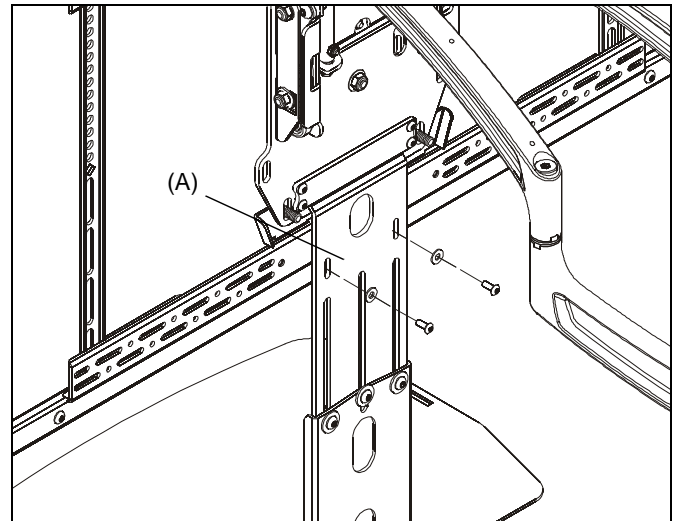

Figure 7
NOTE: If also installing side speaker brackets (TA300), attachment bracket (A) should also be attached to TA300 horizontal brackets for additional support. Use hardware provided with TA300. (See Figure 7)